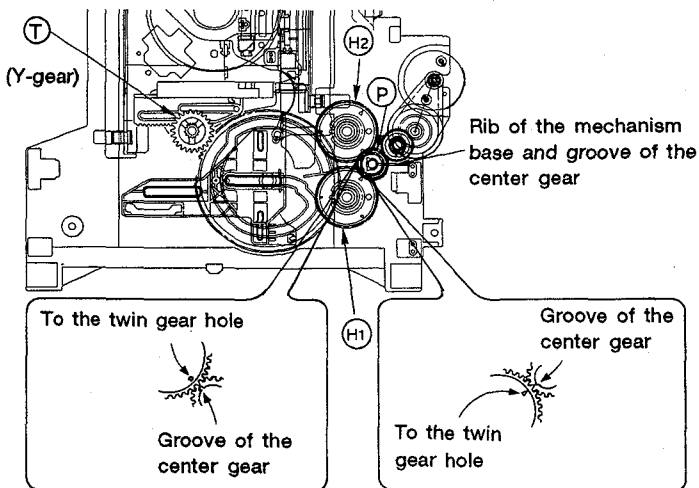

Fig. 2-11
1. Attach the center gear ①, twin gears ② and ③, and Y-gear ④ in the positions indicated in Fig. 2-11.